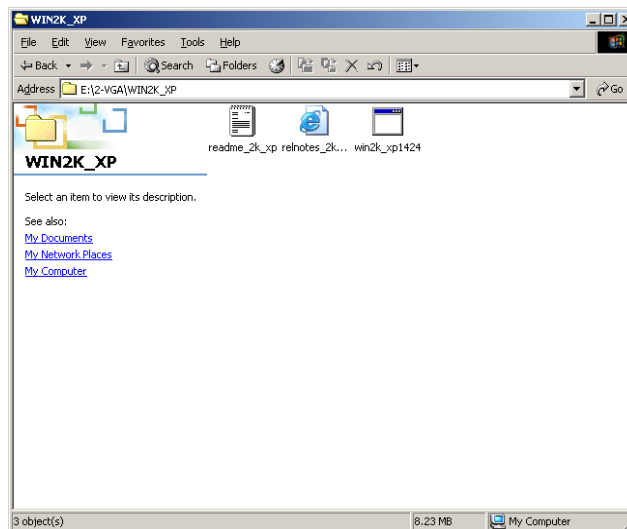

Figure 7-8: VGA Driver
Step 19: A new window appears (**Figure 7-8**).
Step 20: Click the installation program icon in **Figure 7-8**.